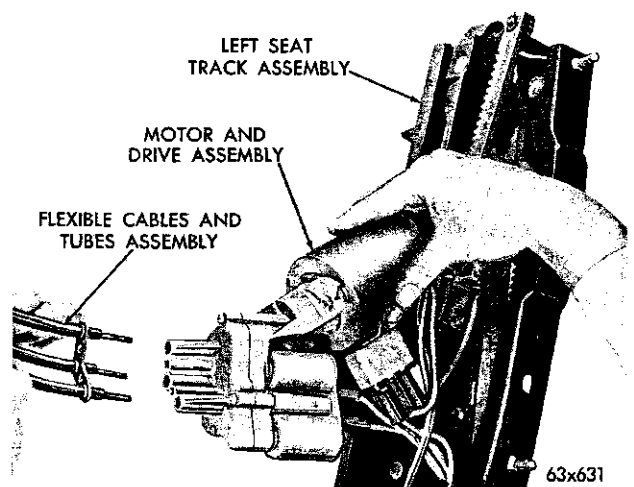

Fig. 127—Removing Cables from Drive
- (1) Remove the front seat and cushion assembly.
- (2) Disconnect the red fed wire.
- (3) Remove the retainer plate that holds the right side tubes to the drive assembly.
- (4) Remove the left seat guide attaching stud nuts and remove the guide and the drive assembly (Fig. 127).